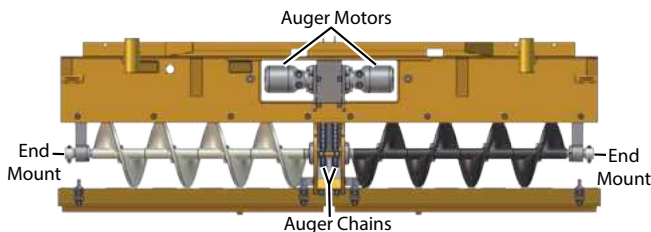

Figure 5-34. Chains, Motors and End Mounts (Back View)
7. Loosen auger chains by sliding auger motors down from backside after loosening the two (2) bolts securing mounting brackets. **(Figure 5-34)**